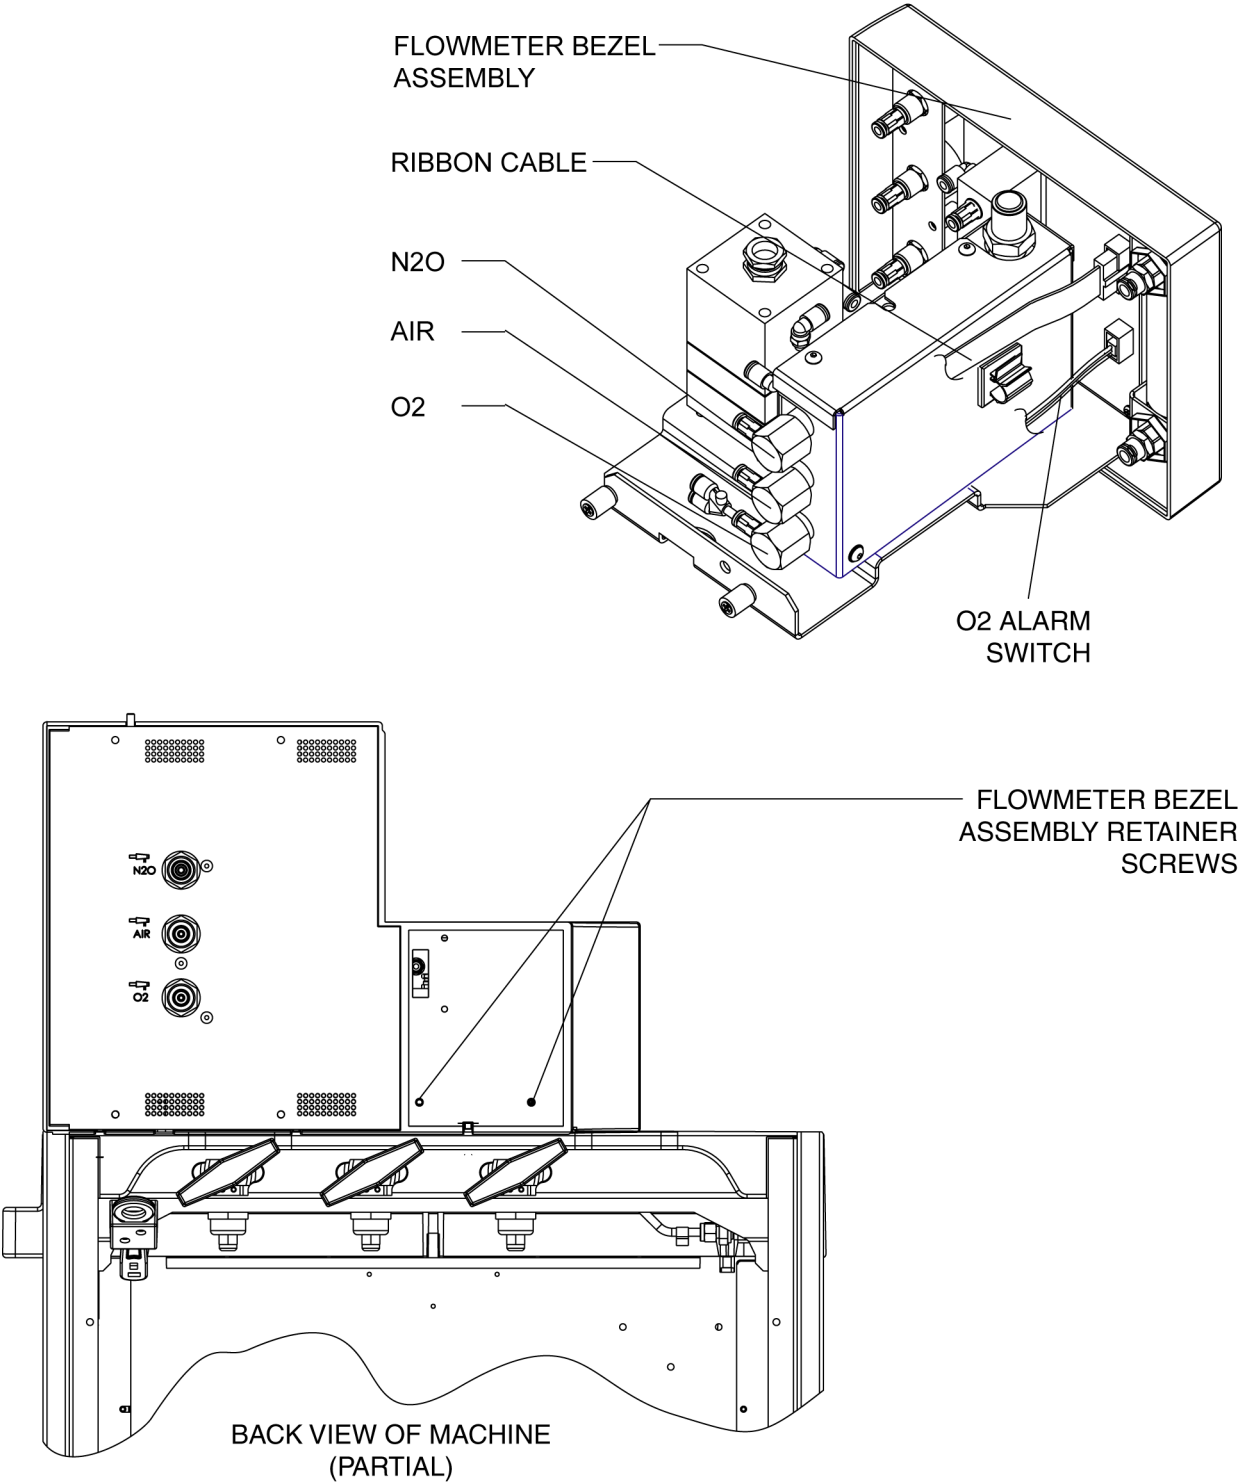

Fig. 4 Flowmeter Bezel Assembly, Fabius GS
3. Remove the two screws at the back of the machine securing the flow meter bezel assembly. Refer to Fig. 4.
2. Reinstall the two screws previously removed that secure the Flowmeter Bezel Assembly at the rear of the machine. Refer to Fig. 4.